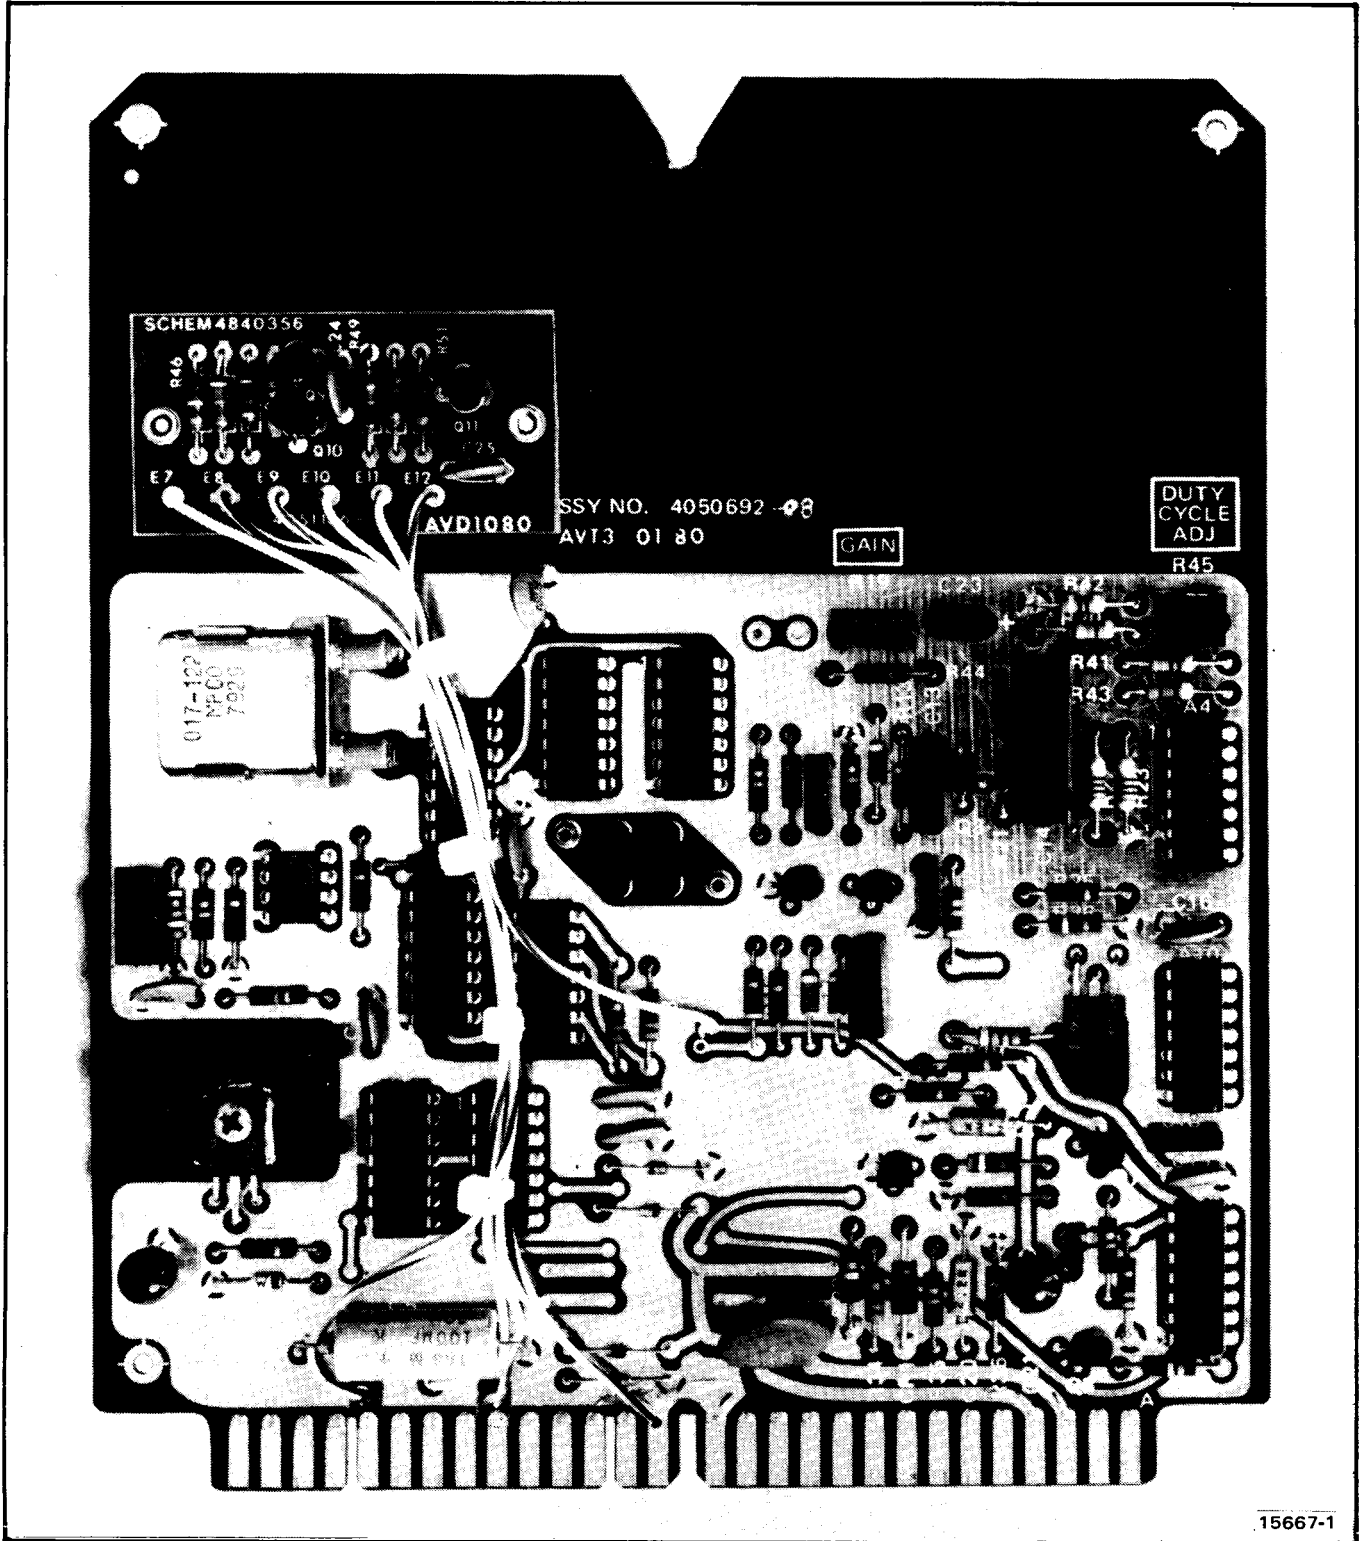

Figure 2-2. Piggyback Board 4051106 Mounted on Capstan Servo PWA
2. Place piggyback board 4051106 on blank area of Capstan Servo PWA (component side). (See Figure 2-2.)